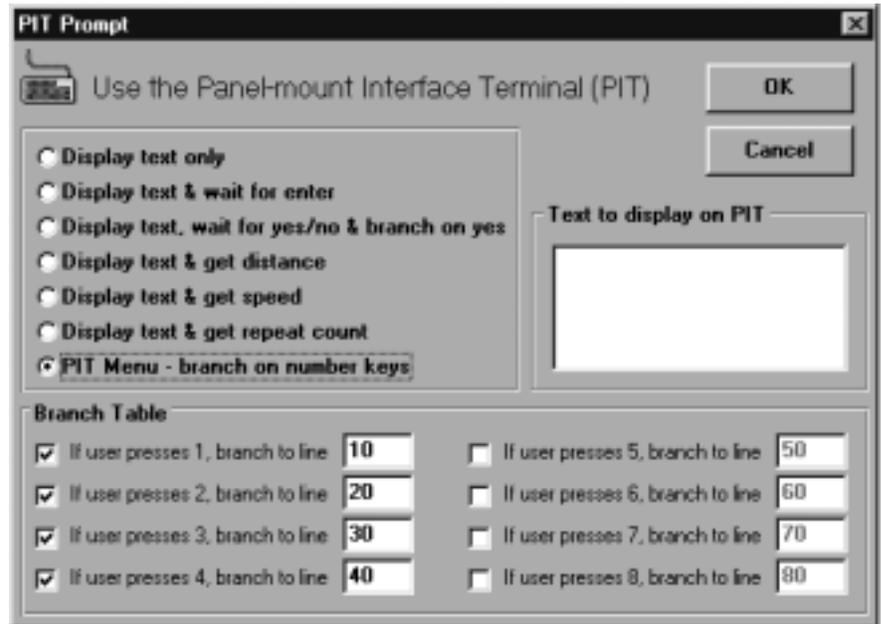

Figure 39 - PROMPT USER FOR SUBROUTINE SELECTION
**TO CREATE A PIT MENU (see Figure 39)**